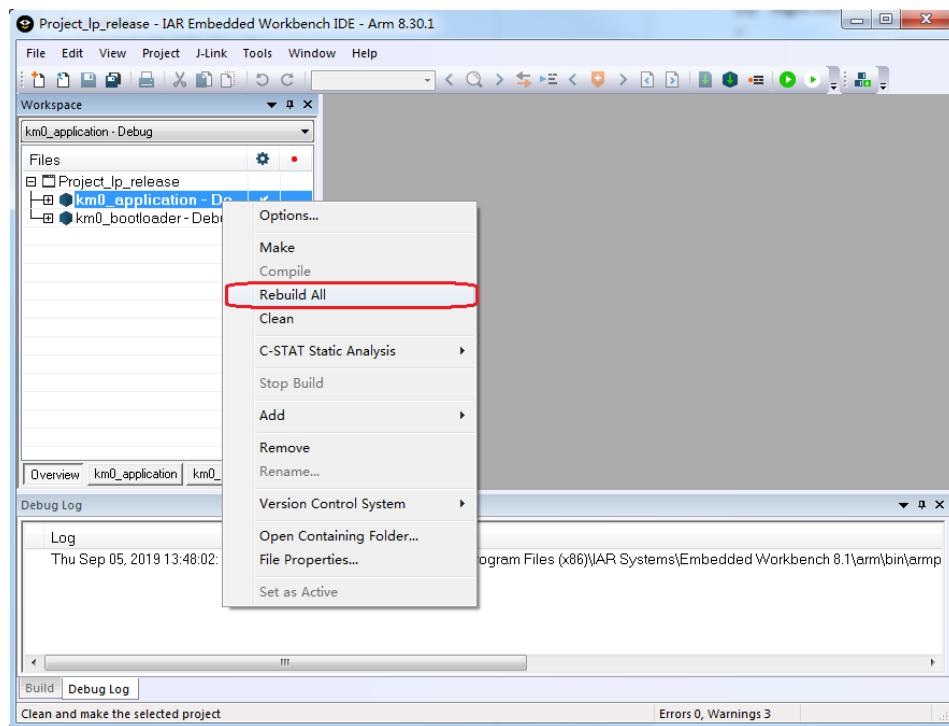

Fig 6-8 Building KM0 project
- (3) Right click the project and choose “Rebuild All”, as Fig 6-8 shows. The km0\_bootloader and km0\_application should compile in order.